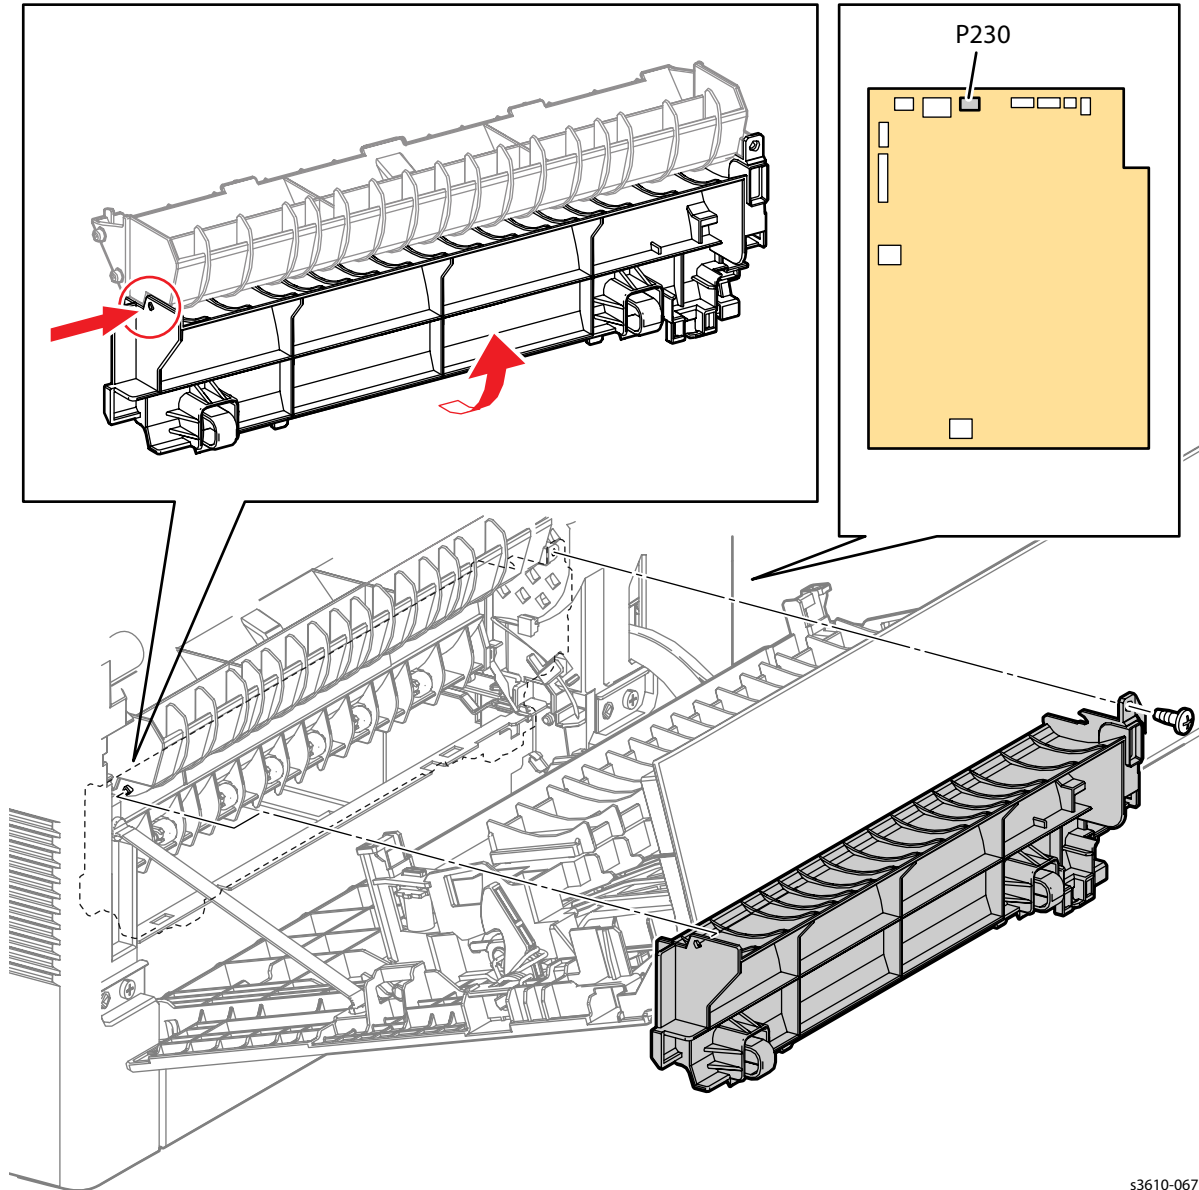

Figure 2
4. From the rear of the machine, remove the Rear Interlock Switch Assembly. (Figure 2)